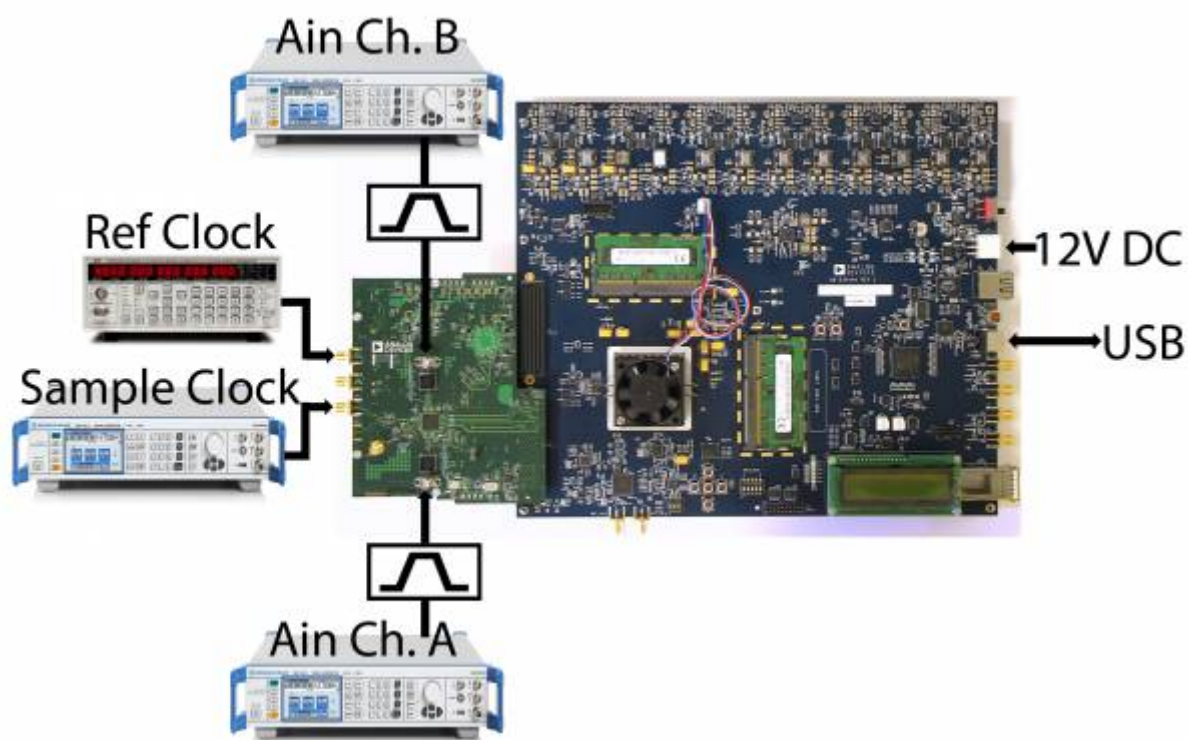

Figure 2. Evaluation Board Connection—AD9680-1000EBZ (on Left) and ADS7-V1EBZ (on Right)
1. Connect the AD9680-1000EBZ evaluation board to the ADS7-V1EBZ data capture board, as shown in Figure 2.
5. If the Device Manager does not show the ADS7-V1EBZ listed as shown in Figure 2, unplug all USB devices from the PC, uninstall and re-install SPIController and VisualAnalog and restart the hardware setup from step 1.